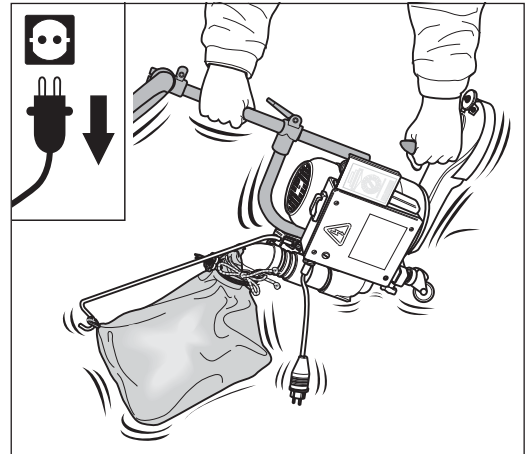

Fig. 50 Shake the machine so that the dust falls from the suction pipe stub into the dust bag.
- 4 Hold the UNICO firmly by the extension and by the machine handle. Shake the machine so that the dust falls from the suction pipe stub into the dust bag (Fig. 50). Set the machine down on the floor again.